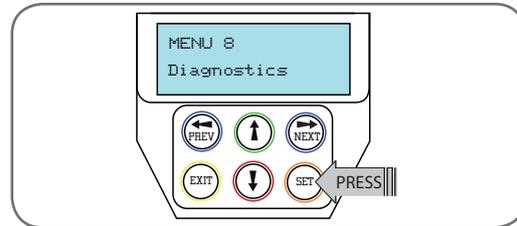

fig 58
1. Press PREV to navigate to Menu 8 (**Fig. 58**).